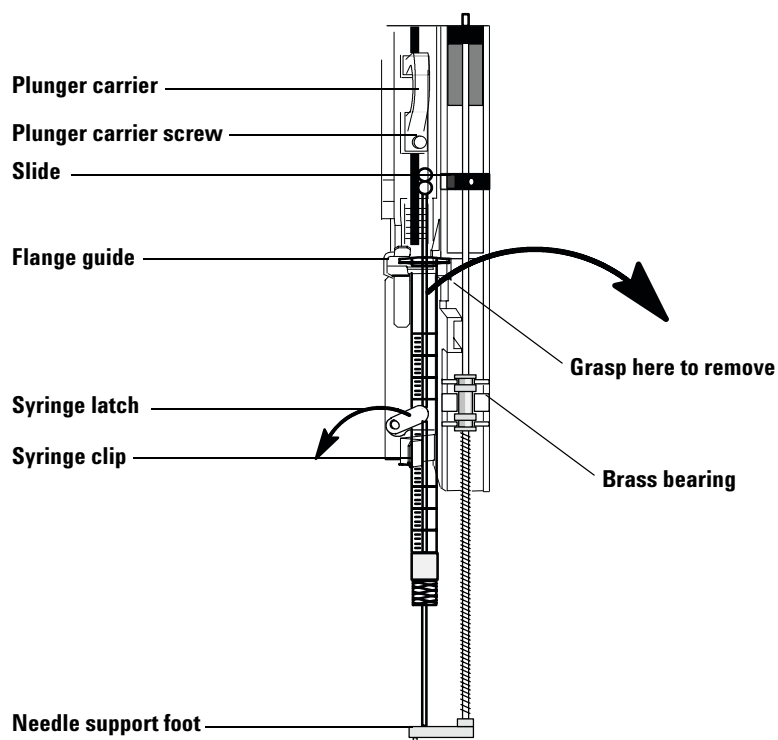

Figure 6 Removing the needle support assembly
- 2 Open the injector door (Figure 6).
- 3 Rotate the syringe latch (Figure 6 on page 18) out of the way.